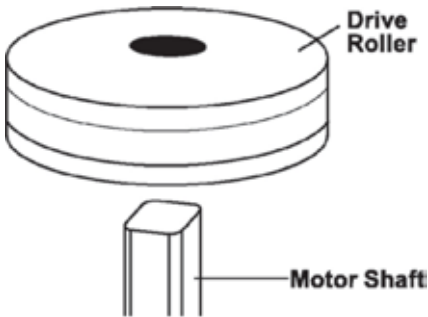

Figure 6. Drive Roller
- Find the side of the drive roller that is stamped with the same wire diameter as that of the wire being installed (see Figure 6). Push the drive roller onto the drive roller shaft, with the side stamped with the desired wire diameter facing you.